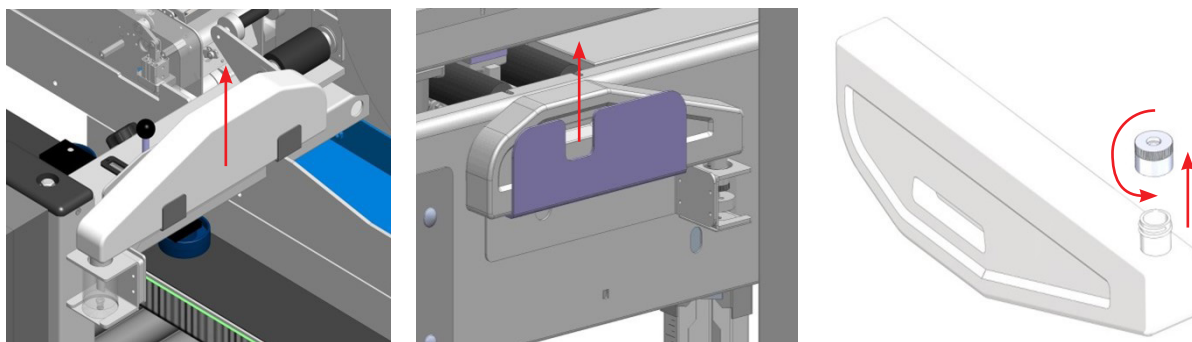

Figure 35: Adding Water to the System
1. Remove the water bottles by pulling them straight up from support brackets (refer to Figure 35).
Overfills and Underfills, as shown in Figures 35 and 36, should be avoided to assure proper processing of the corrugated case. Each of these scenarios put stress on the water activated tape seal which could be detrimental to the integrity of the closure.